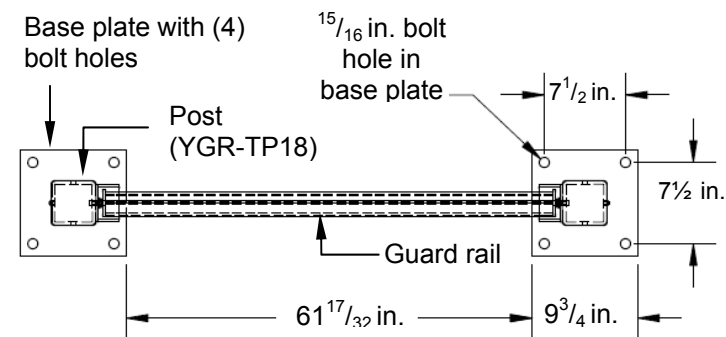

FIG. 1A: Overhead view showing spacing between posts and post base dimensions
1. Place the posts in the desired installation locations. Refer to FIG. 1A above when placing the posts.